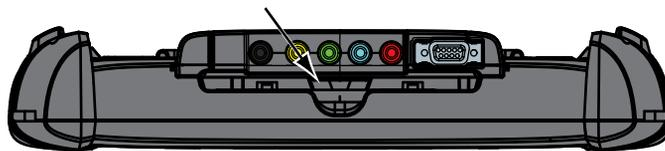

Figure 8-1 Scope Multimeter release tab
1. Depress the Scope Multimeter module release tab located on the top of the Diagnostic Tool (Figure 8-1).